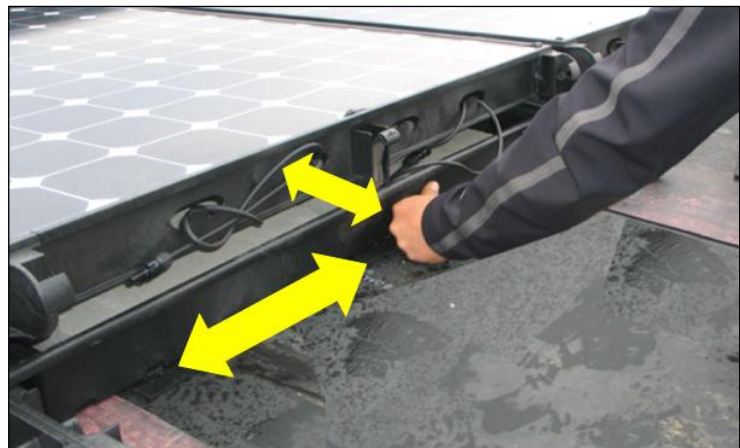

Fig. 22
- Inspect each tab/groove interface to ensure that the tray is fully seated on the legs. (Fig. 22).